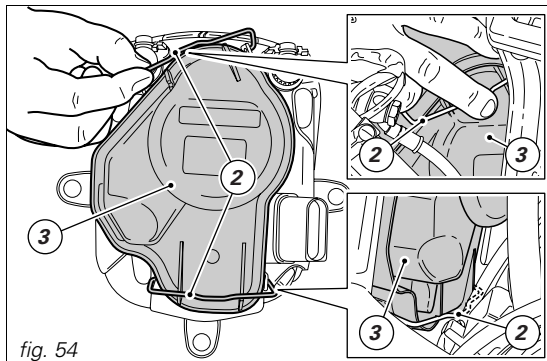

fig. 54
To access the headlight bulbs, release the top and bottom springs (2) under the instrument panel at the side of the fixed fairing (fig. 54), and open the shell (3).